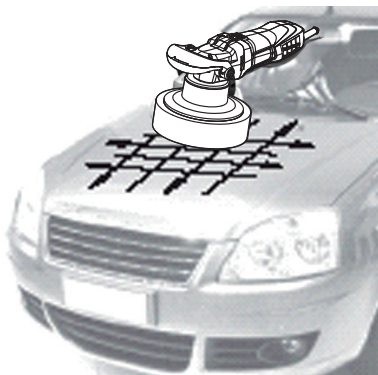

Figure 9
7. TO USE THE CAR POLISHER (SEE FIG. 9)